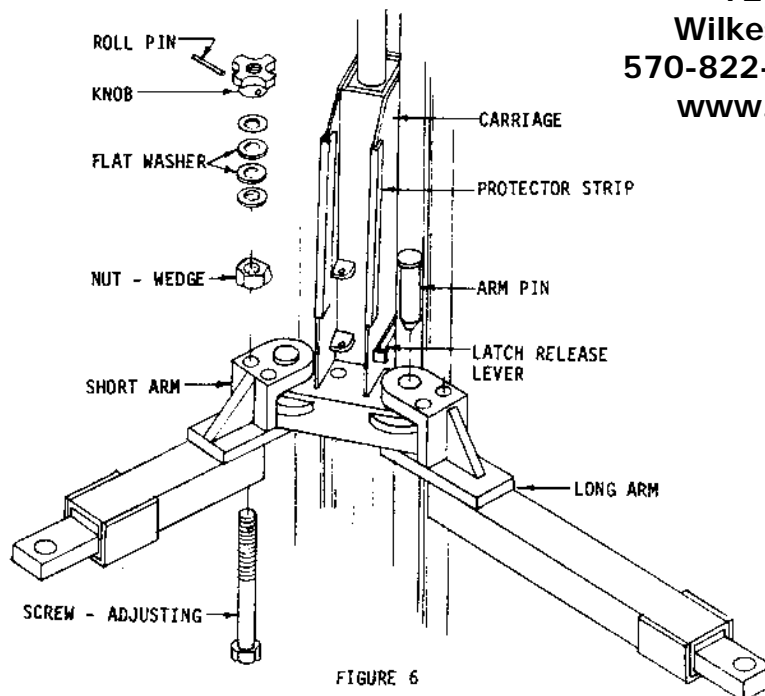

FIGURE 6
36. Raise carriages to a comfortable working height and install all four lifting arms with extensions. (See Fig. 6). **NOTE:** Screw in bottom of lifting arm must be installed to prevent extension from sliding off end of arm. The short lifting arms will go to the front of lift and the long arms will go to the vehicles rear.
37. Raise lift to top of travel and pull latch release on each carriage to lower lift. (See Fig. 6).
39. Pull latches to lower lift. **NOTE:** If carriages are resting on safety latches, it will be necessary to slightly raise lift to be able to pull the latch release lever. (See Fig. 6).
8. Pull latch release (See Fig. 6) on each carriage toward the center of lift and lower lift. Safety latches will automatically reset if lift is raised.